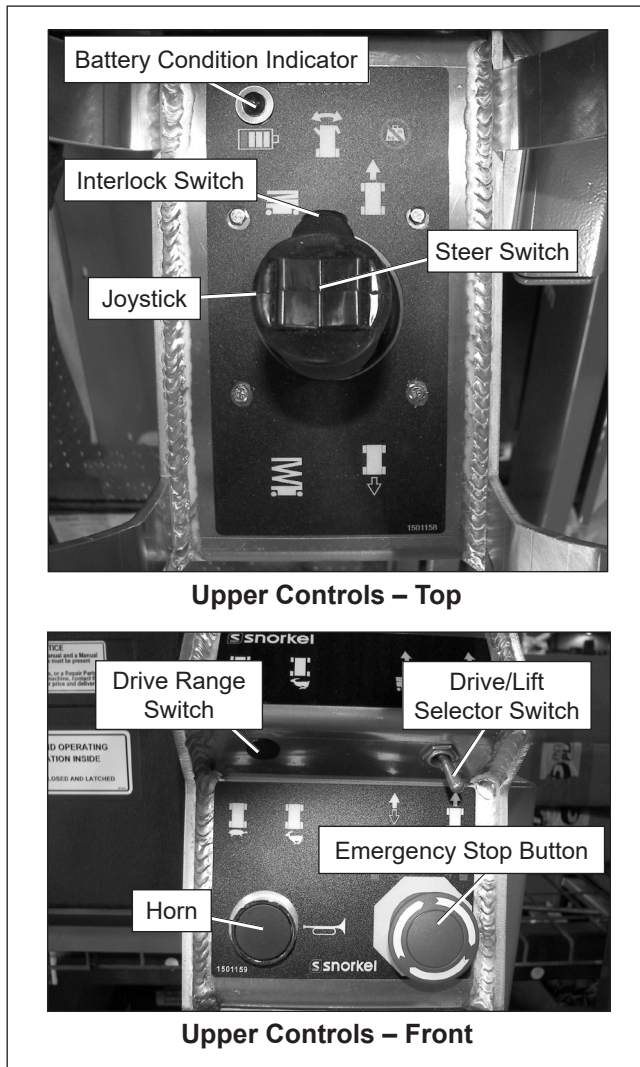

Figure 9.2 – Upper Controls
5. From the upper controls, pull the emergency stop button outward (refer to Figure 9.2).
1. Place the drive/lift selector switch (refer to Figure 9.2) in the lift position.
1. Place the drive/lift selector switch (refer to Figure 9.2) in the drive position.